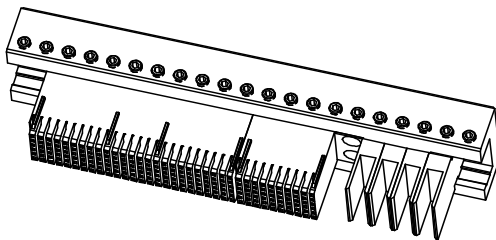

Figure 2-4
3. Now tighten the M3 set screws against the modules with one (1) screw against each power module inserter and each alignment block; and two (2) screws evenly spaced on a 6 by 10 header insertion module; and at least three (3) screws evenly spaced on a 6 by 25 header insertion module. Figure 2-4 shows a typical completed assembly.